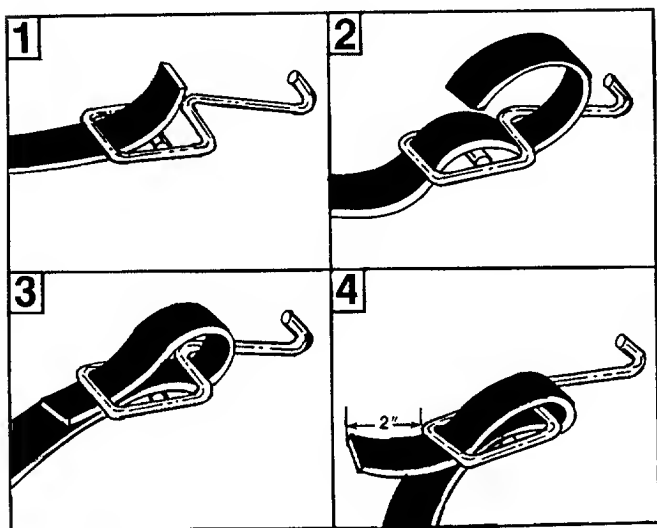

FIGURE 7.
4. Assemble one hook (G) to each end of the battery strap (G) as shown in figure 7. Adjust the strap so there is about 2" of strap beyond the hooks.